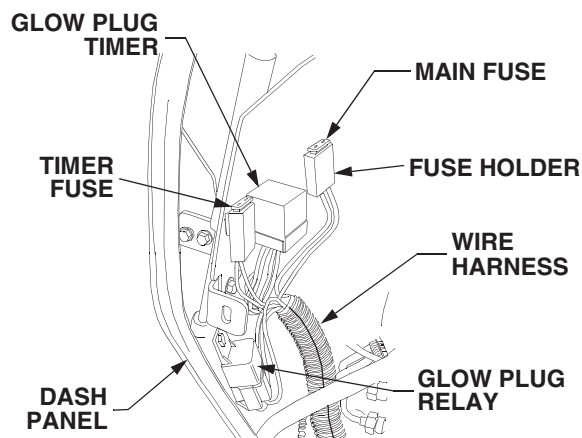

Figure 40
- Locate the appropriate fuse holder on the front of the bulkhead, just inside the right side of the dash panel. See Figure 40.